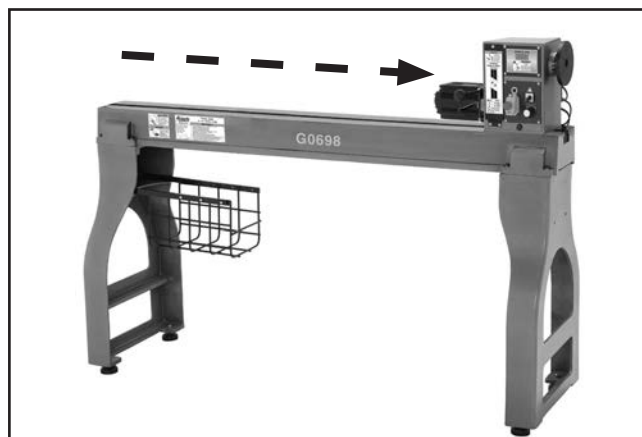

Figure 45. Lathe prepared for outboard turning.
3. Loosen the headstock, then move it all the way to the tail end of the lathe bed, as shown in **Figure 45**.